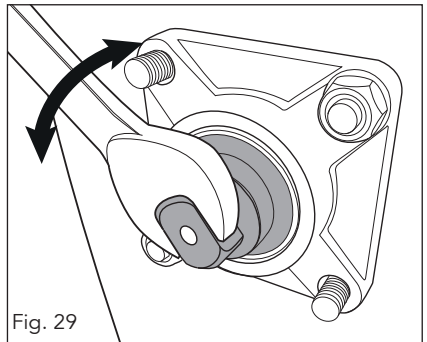

Fig. 29
4. Rotate the blade shaft as required using the 17mm spanner (fig. 29).